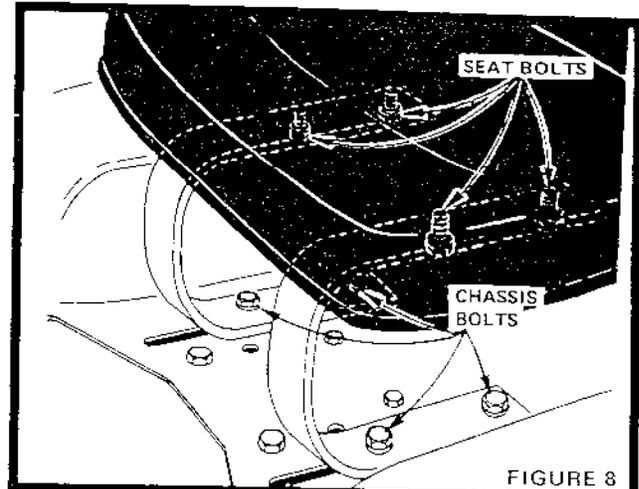

FIGURE 8
- a. For maximum adjustment remove Seat Bolts, position Seat with forward or rearward set of holes, and tighten Bolts (Fig. 8).
- b. For fine adjustment loosen Chassis Bolts, slide Seat to desired position, and tighten Bolts securely (Fig. 8).